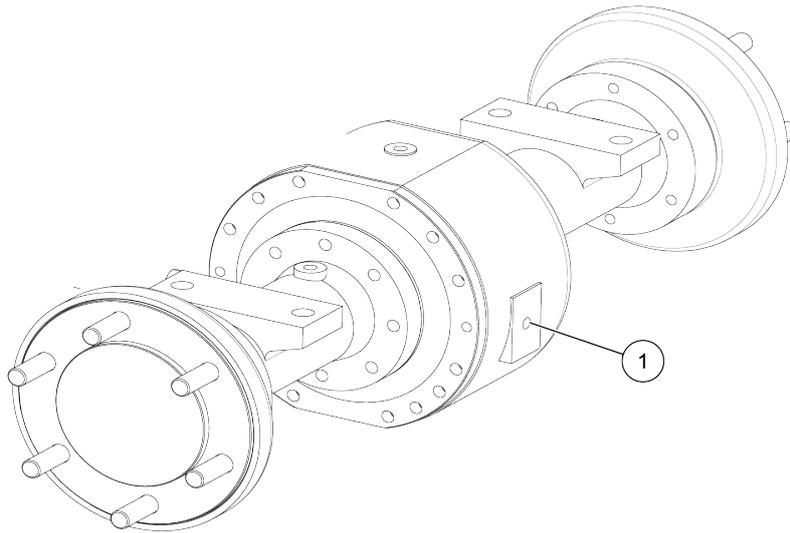

Figure 6-34 Oil port position when adding oil
(2) Oil plug/ port
Step 4: Start the engine, remove the blocks, slowly move the loader to let the oil plug (1) at a horizontal position. Stop and pull up the parking brake handle, and place the blocks on the front and back of the tire, as shown in Figure 6-34: